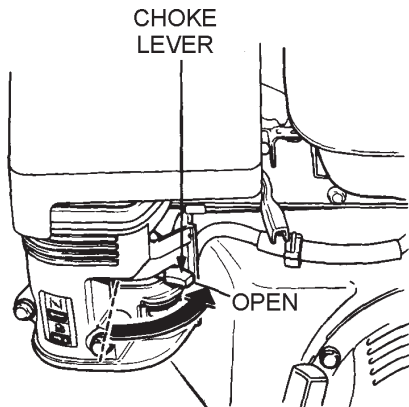

Figure 16. Engine Choke Lever (Open)
- Place the **choke lever** (Figure 16) in the "**OPEN**" position if starting a **cold** engine.